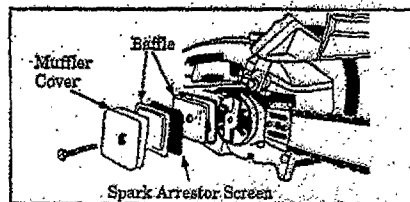

Figure 37
3. Remove the Muffler Cover. Figure 37.